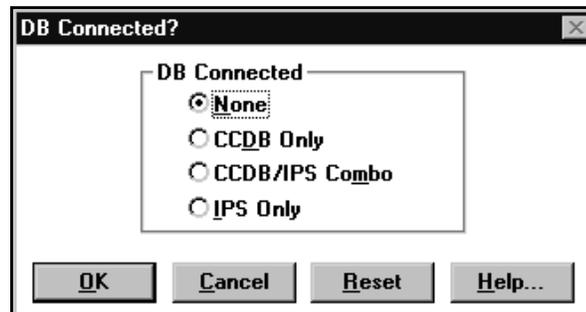

FIGURE 100. Example of DB Connected dialog box
1. To connect to or disconnect from the CCDB or the Intelligent Service Node Provisioning System (IPS), select DB Connected in the configuration window. (See Figure 100.)